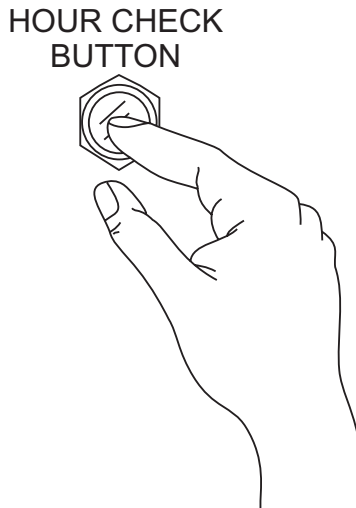

Figure 85. Hour Check Button
1. With the engine stopped (**OFF**), press and hold the **Hour Check button** (Figure 85) located on the control panel.